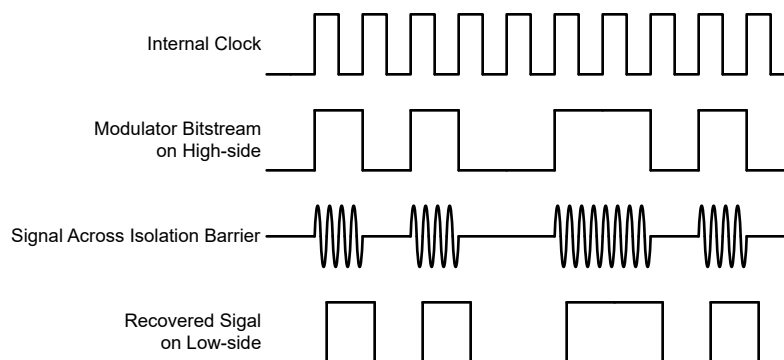

Figure 7-3. OOK-Based Modulation Scheme
The AMC0x36 uses an on-off keying (OOK) modulation scheme, as shown in Figure 7-3, to transmit the modulator output bitstream across the SiO_2 -based isolation barrier. The transmit driver (TX) as illustrated in the *Functional Block Diagram* transmits an internally generated, high-frequency carrier across the isolation barrier to represent a digital one. However, TX does not send a signal to represent a digital zero. The nominal frequency of the carrier used inside the AMC0x36 is 480MHz.